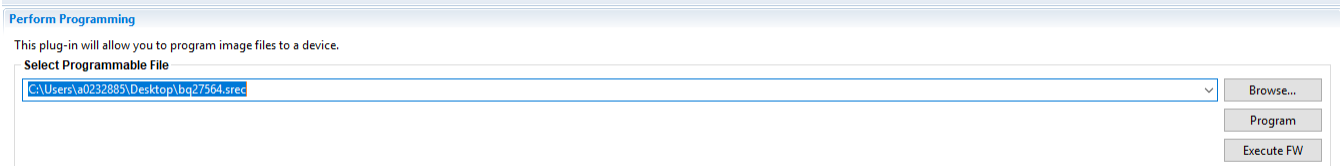

Figure 4. Programming the firmware on the gauge using bqstudio
- Then go to the programming window as shown in Figure 4 and browse to where the srec is stored on your computer. Select it, and then hit the program button. This process will update the firmware on the chip.